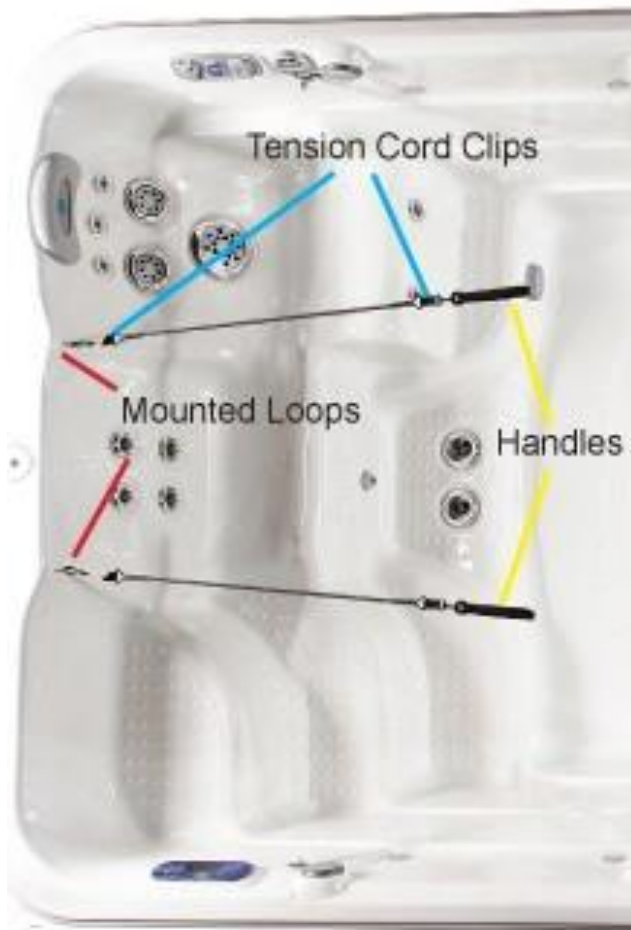

Figure 20. Tension Cord Mount Locations
- 1 Install Tension Cords** Choose a desired pair of the varying length tension cords. Clip the tension cords to the mounted loops (see Figure 20). Attach handles to the tension cord.